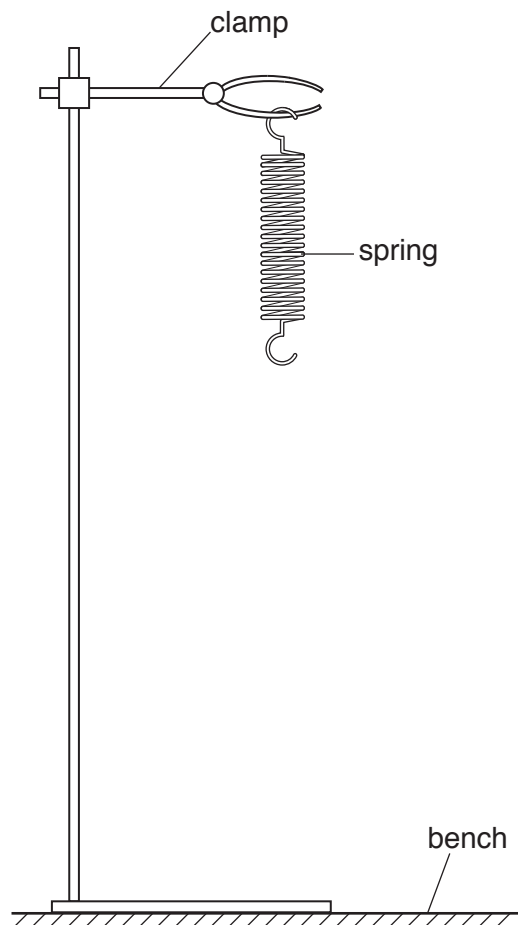

Fig. 3.1
A spring has been set up in a clamp for you, as shown in Fig. 3.1.
- (ii) **Mark on Fig. 3.1** the length l_0 you measured. [1]